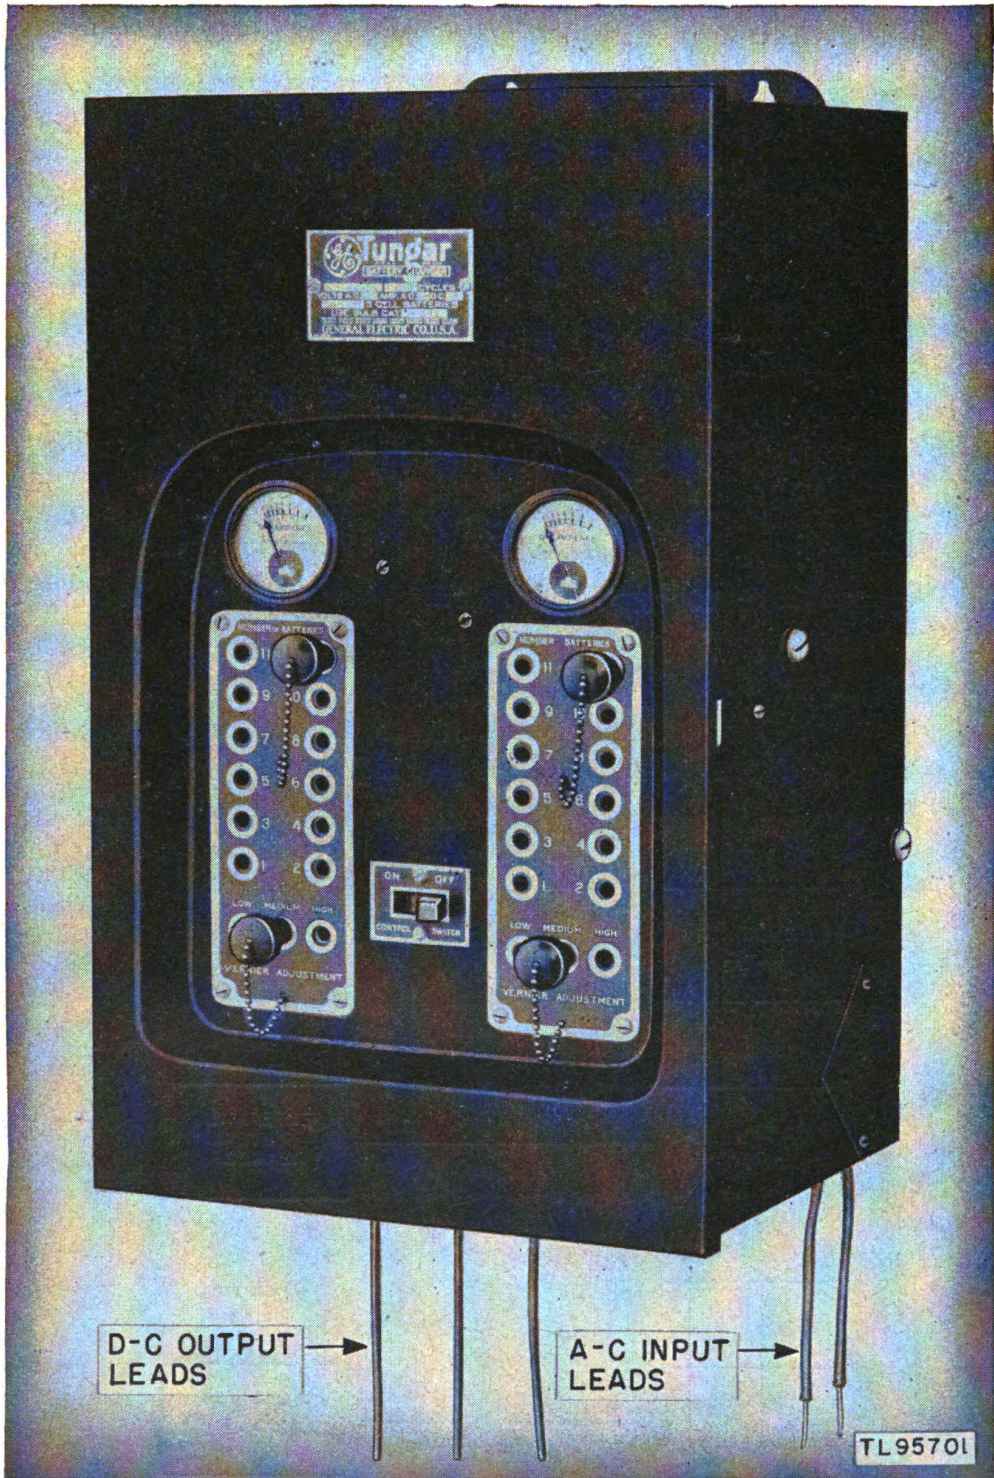

Figure 3. Rectifier 6RB6B17, showing input and output leads.
d. Rectifier 6RB6B17 (fig. 3) is a commercial model similar to Rec-
b. Rectifier 6RB6B17 differs from Rectifier RA-36-(1) as follows:
- (1) Connecting leads differ. Five insulated leads extend from the bottom of the rectifier, two for connection to the a-c power source, and three for connection to the battery circuit. (See fig. 3.)
c. EXTERNAL CONNECTIONS FOR RECTIFIER 6RB6B17 FOR TELEPHONE CENTRAL APPLICATIONS. (1) *General*. Rectifier 6RB6B17 is not supplied with rubber-covered cords. Five leads extend from the bottom of the rectifier case. (See fig. 3.)